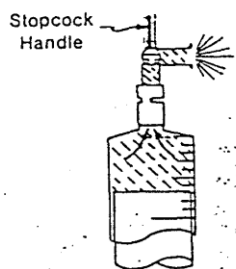

FIG. 3 Stopcock Up, Handle Away from Syringe
5. Hold syringe in vertical position (Fig. 3) stopcock up, and expel bubbles and oil, leaving 1-2 ml. Close stopcock.